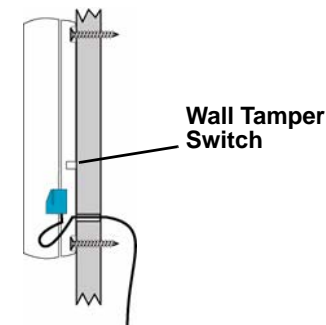

Figure 3 Mount the Transmitter to the Wall
1. Route the external wiring through the wall, as shown in Figure 3.